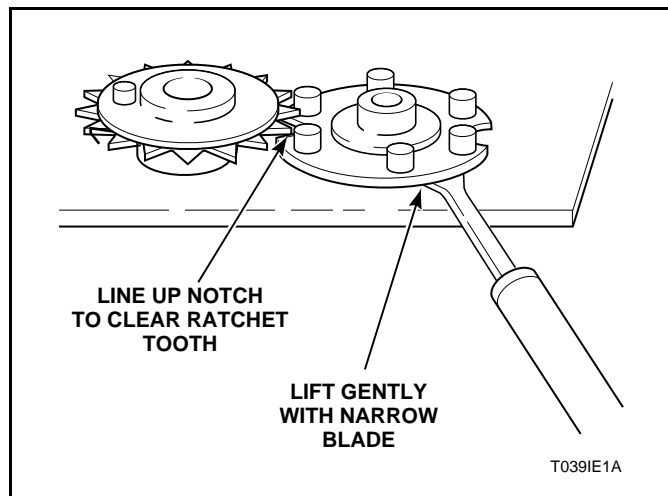

Figure 18
1. Rotate cam by hand until “V” notch lines up beneath the ratchet tooth see *Figure 18*.